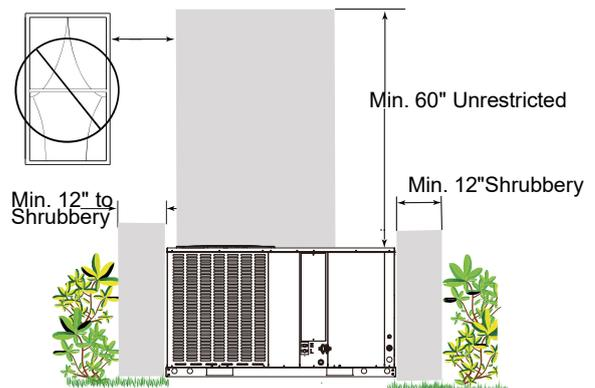
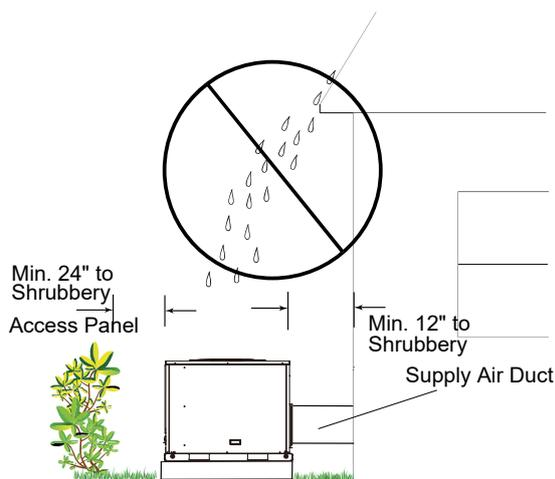

Fig. 2-8
Fig. 2-9
See Fig. 2-8 and Fig. 2-9.
- Units should be elevated 3-12 inches above the pad or rooftop, depending on local weather. This additional height will allow drainage of snow and ice melted during defrost cycle prior to its refreezing. Ensure that drain holes in unit base pan are not obstructed, preventing drainage of defrost water (Fig. 2-9).